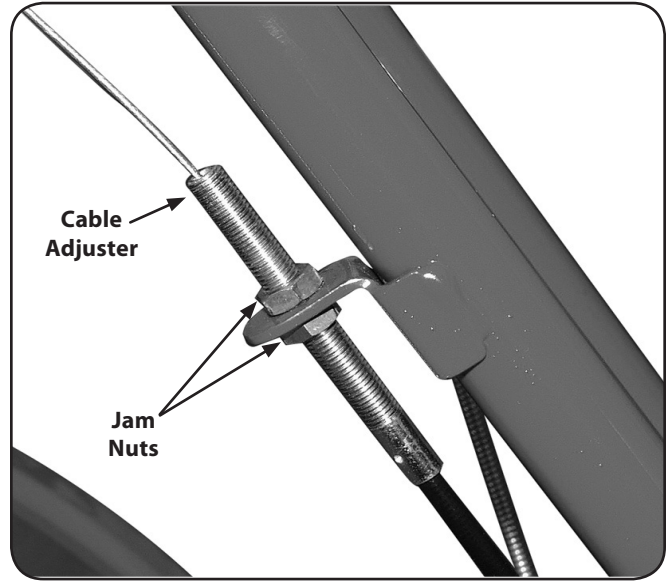

Figure 6-6
2. Belt adjustments are done with the forward clutch cable adjuster. Use two 1/2", open-end wrenches to loosen the two jam nuts a few turns. See Figure 6-6.